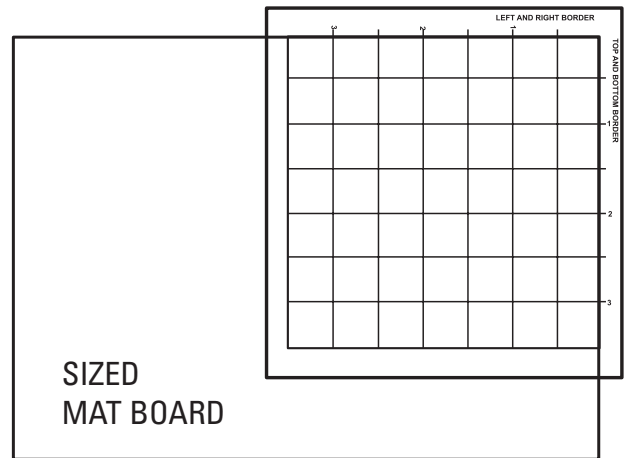

Fig.8
Step 3 – Working from the back of your mat board place the Border Guide in the upper right hand corner of the board. Border Guide has a built in 90 degree edge that will locate the Border Guide onto the corner of the Mat Board ensuring accuracy. (Fig. 8)